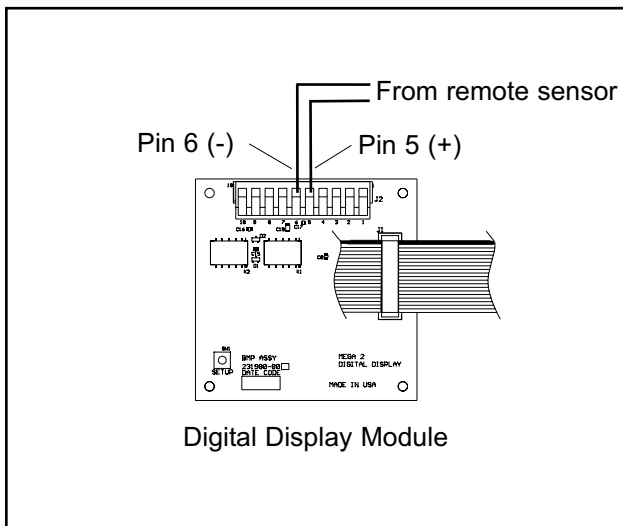

Figure 19: Remote Sensor Wire Termination
3. Connect positive sensor wire to terminal 5 and negative sensor wire to terminal 6 for each remote sensor and digital display module. Refer to Figure 19.